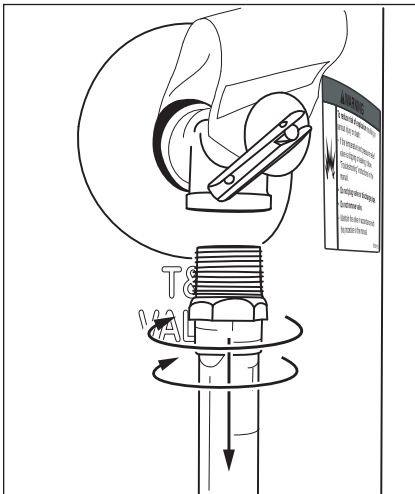

Figure 12 - Removing the T&P Relief Valve discharge pipe.
- 10** When the tank is empty, disconnect the Temperature & Pressure (T&P) Relief Valve discharge pipe (Figure 12). You may be able to reuse the discharge pipe, but do not reuse the old T&P Relief Valve. A new T&P Relief Valve comes installed on your water heater (or on some models, is in the carton with the water heater).